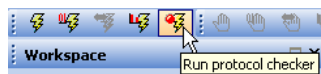

FIGURE 6-2 The Run Protocol Checker menu item at the menu bar
- By pressing the *run protocol checker* menu tool bar button, as shown in Figure 6-2.